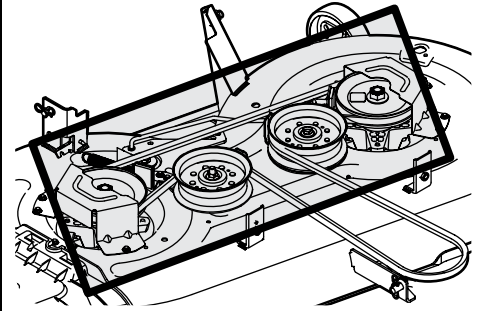

Figure 4-8
- Clean the top of the mower deck, under the spindle covers and belt area. See Figure 4-8.